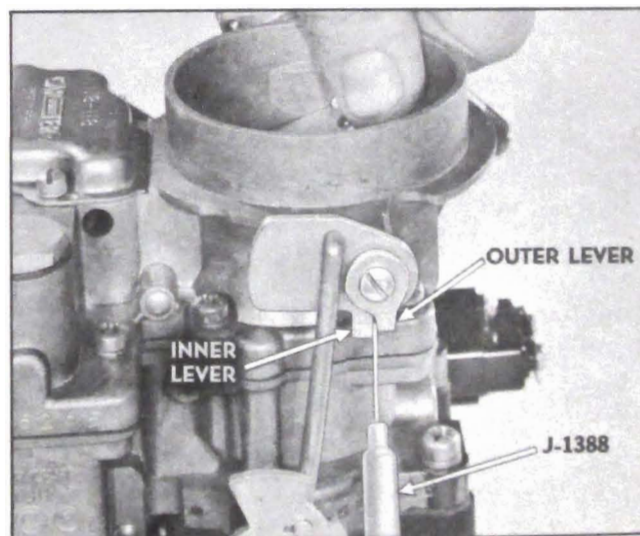

Figure 3-26—Checking Fast Idle Cam Clearance
1. Remove air cleaner. Open throttle to clear fast idle cam and close choke valve. With choke valve held fully closed, check clearance between lug on outer choke shaft lever and stop on inner choke shaft lever using Gauge J-1388 or a .020" feeler gauge. See figure 3-26.